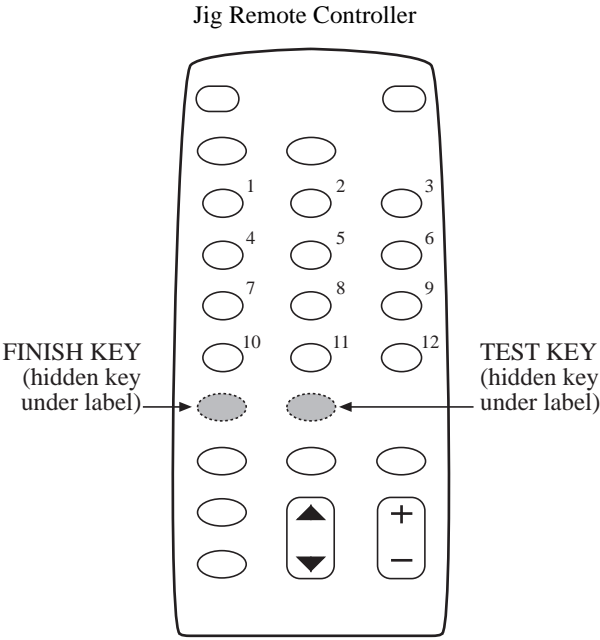

Fig. 1
- 1. Press " TEST " key (hidden key) on the remote control unit to activate the Service Mode. (Refer to Fig. 1)
- 5. With conditions as they are in step 4, press the "DISPLAY" key and then press the "FINISH key (hidden key)". (refer to Fig. 1)